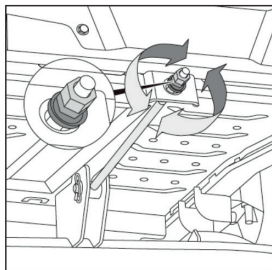

FIG. 23
3. IF A FRONT-TO-BACK ADJUSTMENT IS REQUIRED, AFTER LOOSENING THE OUTER LOCK NUT (A, FIG. 23), TURN THE INNER ADJUSTING NUT (B, FIG. 23) CLOCKWISE TO RAISE OR COUNTERCLOCKWISE TO LOWER THE FRONT OF THE CUTTING DECK.